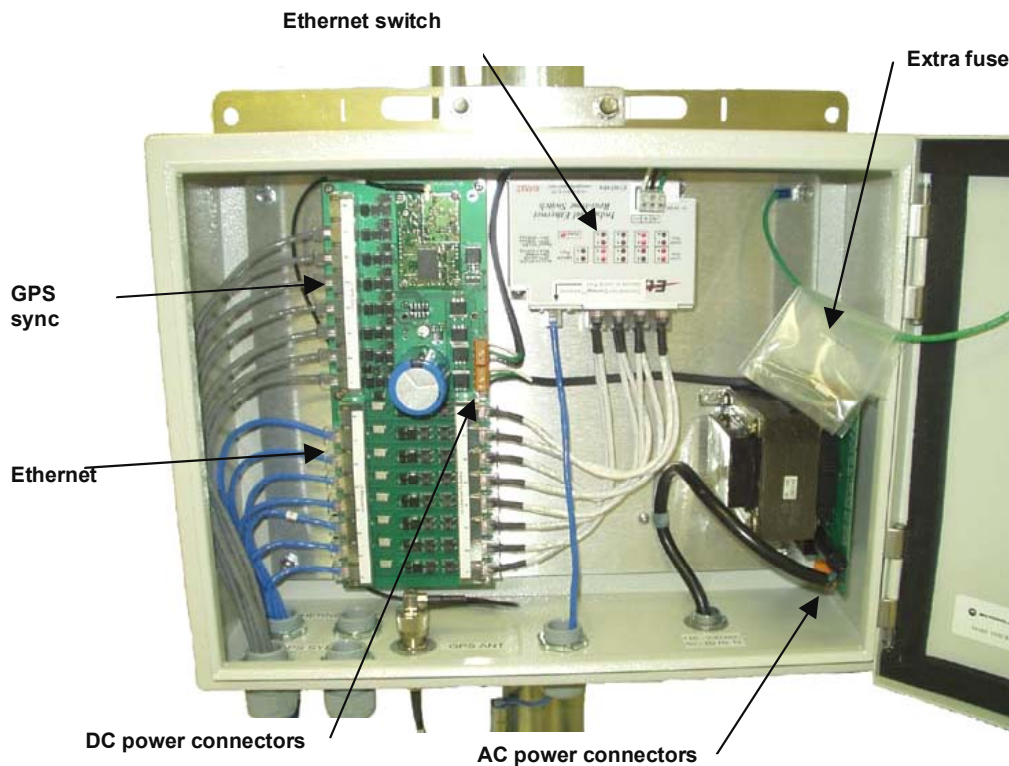

Figure 131: Canopy CMM2, front view
8. Connect the Ethernet cable from the first AP or BH to the **Port 1** in the J3 ports in the CMM2. This port is the *master* Ethernet port for the CMM2 and should be connected first in all cases. Figure 131 on Page 346 is a photograph of a properly wired CMM2.
11. Connect the GPS sync cable from the first AP or BH to the **Port 1** in the J1 ports in the CMM2. See Figure 131 on Page 346.